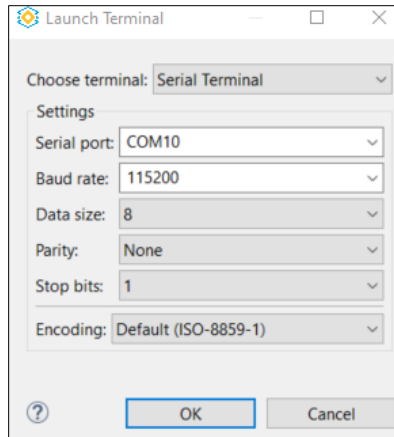
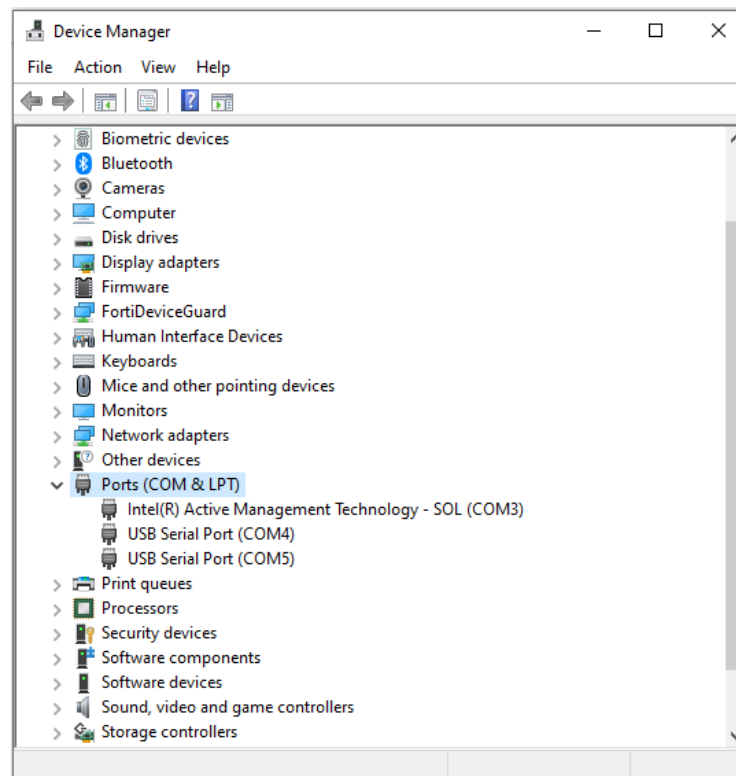

Figure 6.4. UART Launch Terminal Window
Figure 6.5. Device Manager Window on PC
4. Select **Serial Terminal** as shown in Figure 6.4. In Serial port dropdown list, select the last COM in the list as shown in Figure 6.5.